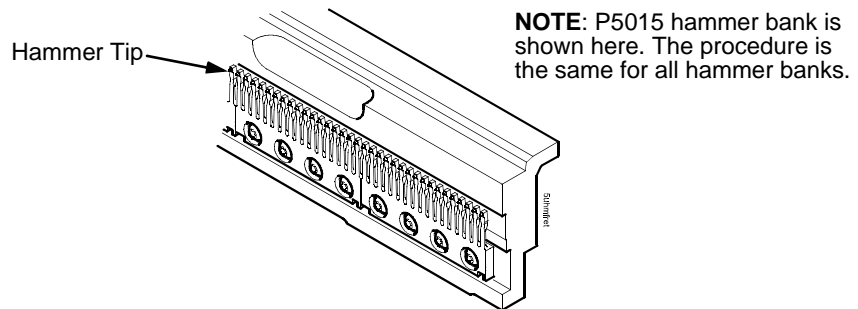

Figure 6. Cleaning the Hammer Tips
8. Using a stiff, non-metallic brush (such as a toothbrush), gently brush the hammer tips to remove lint and ink accumulations. (See Figure 6.) Vacuum up any residue.